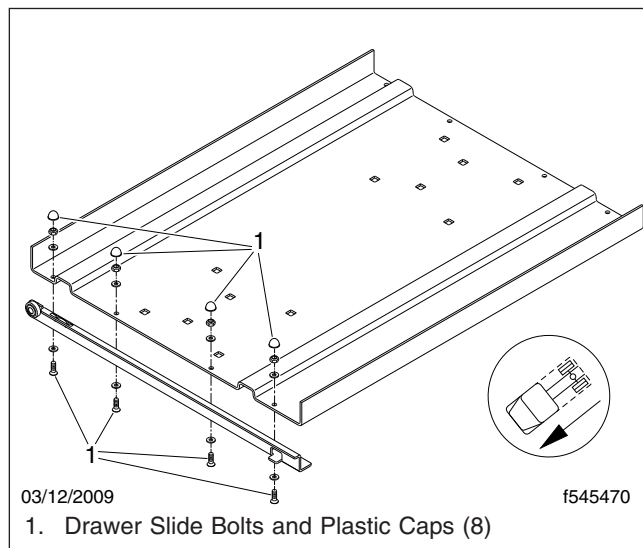

Fig. 5, Drawer Slide Assembly
11.3 Place the plastic caps over the exposed threads of the bolts. See Fig. 5.